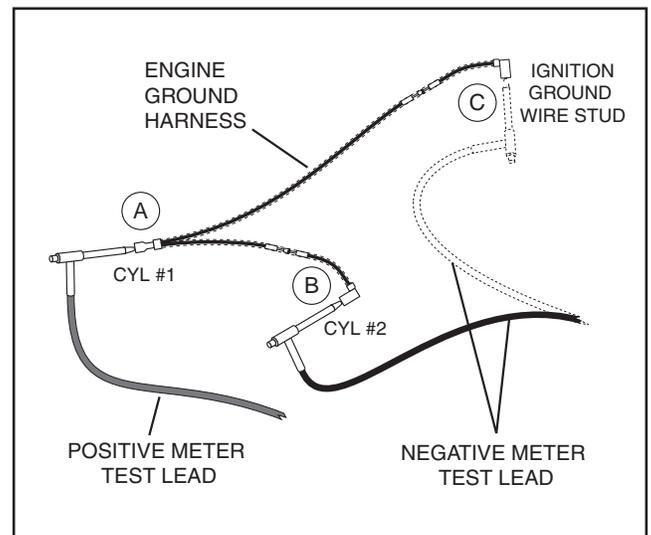

Figure 2-2. Testing Ground Wire
4. Insert RED test lead clip into connector "A" (Figure 2-2). Leave attached for remainder of test.